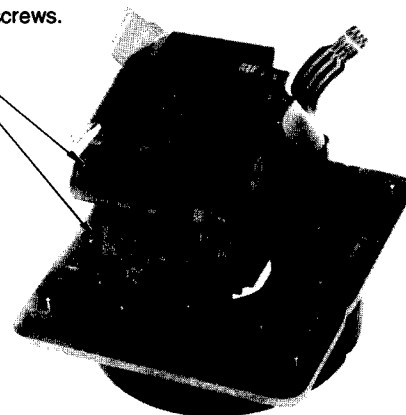

Fig. 3-1
- Referring to Fig. 3-1, remove two screws and remove the Head Optical Ass'y.